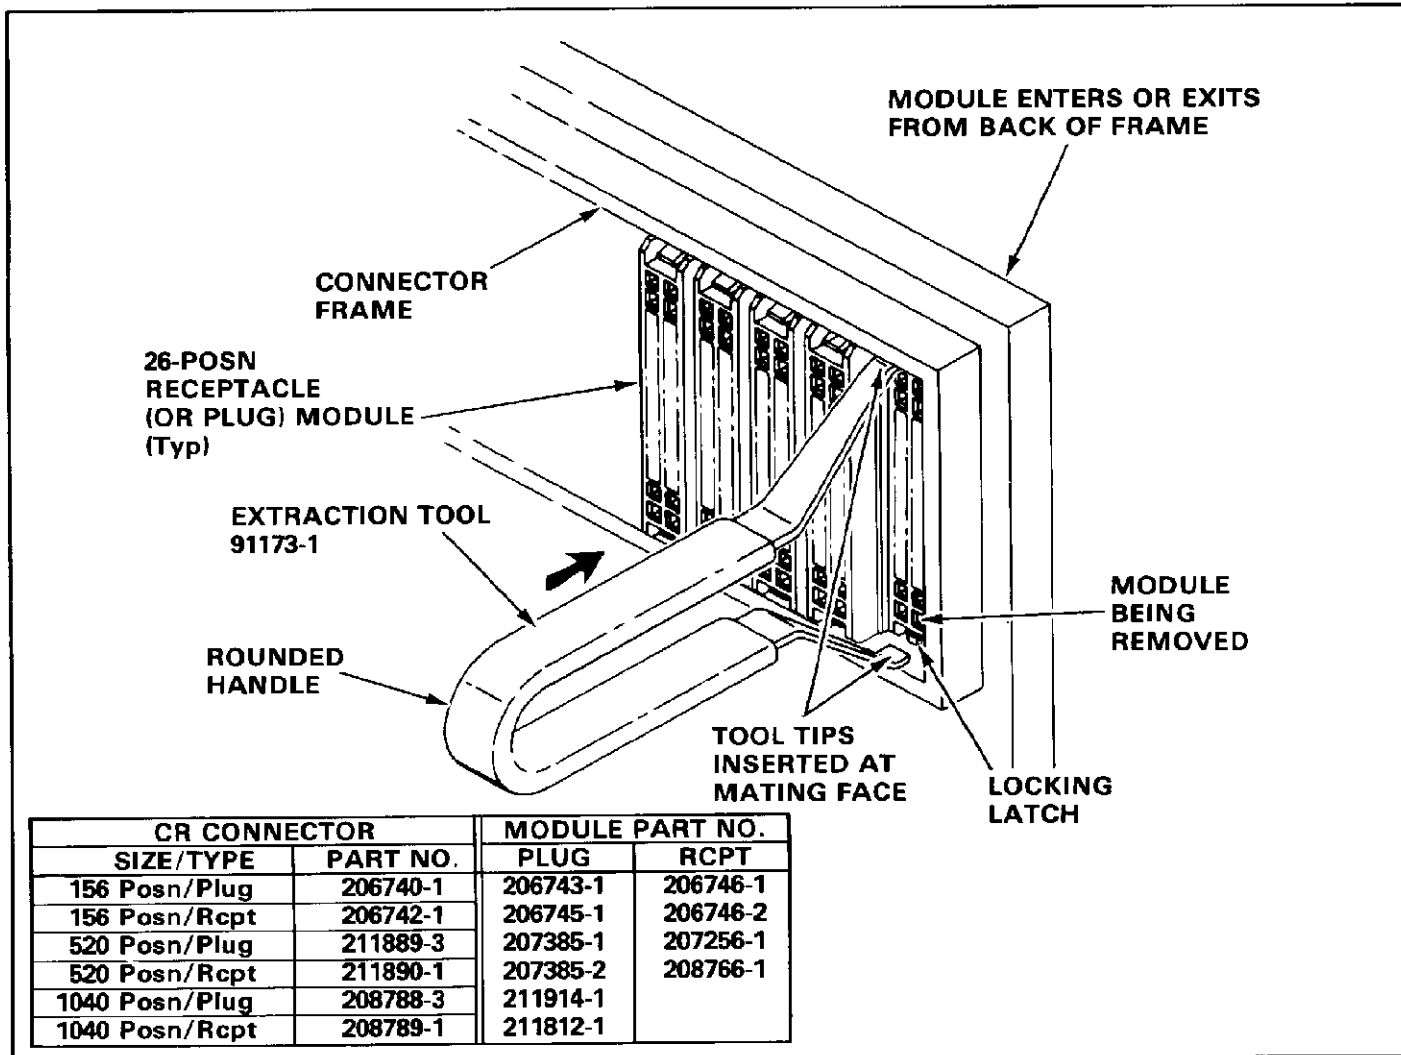

Fig. 1
This instruction sheet (IS) covers the use of AMP Extraction Tool 91173-1 which is used to remove 26-position plug or receptacle modules from CR connector frames or housings. Refer to Figure 1. Read these instructions carefully before extracting any modules.
2. DESCRIPTION (Figures 1 and 2)
The tweezer-shaped tool shown in Figure 1 features two grooved extraction tips and a rounded handle which allows even distribution of pressure on the tool tips. Note that pressure on the tool tips releases the locking latches of the module and allows removal of